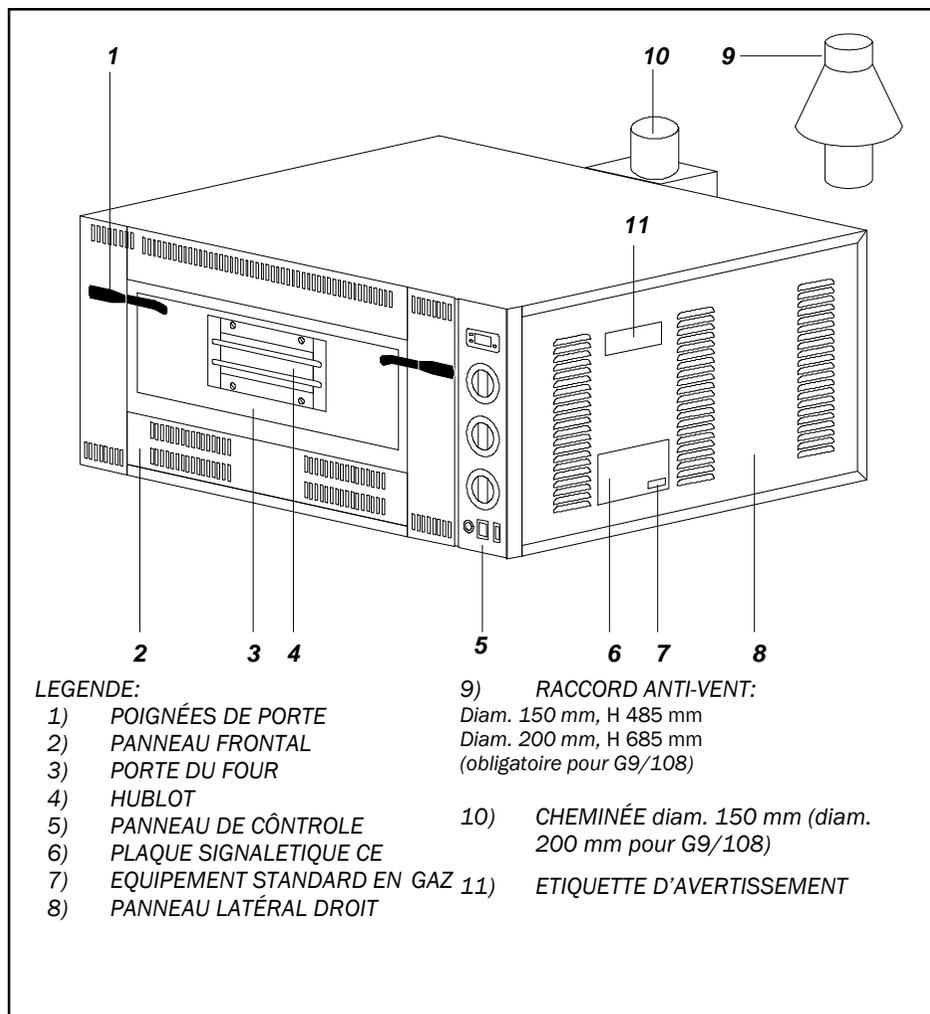

FIG.3 (DÉSCRIPTION COMPOSANTS)
- DÉVISSER LE PANNEAU FRONTAL (FIG.3-RÉF.2);
- DÉVISSER LE PANNEAU LATÉRAL DX (FIG.3-RÉF.8);
ENLEVER LE PANNEAU FRONTAL (FIG.3-RÉF.2); EN DÉVISSANT LES RACCORDS SPÉCIAUX DE BRANCHEMENT DÉSASSEMBLER LES CANALISATIONS DU GAZ QUI SE TROUVENT DEVANT LES BRÛLEURS À REMPLACER;
- 1) OUVRIR MANUELLEMENT LA PORTE DU FOUR (FIG.3-RÉF.3) PAR LES POIGNÉES SPÉCIALES (FIG.3-RÉF.1);